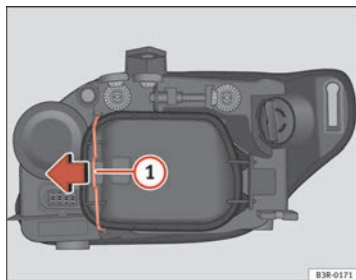

Fig. 212 Side light bulb (inside of vehicle)
- Move the brace ⇒ fig. 212 ① in the direction of the arrow and remove the rigid cover, separating the brace side and then removing the two tabs from the other end of the cover.